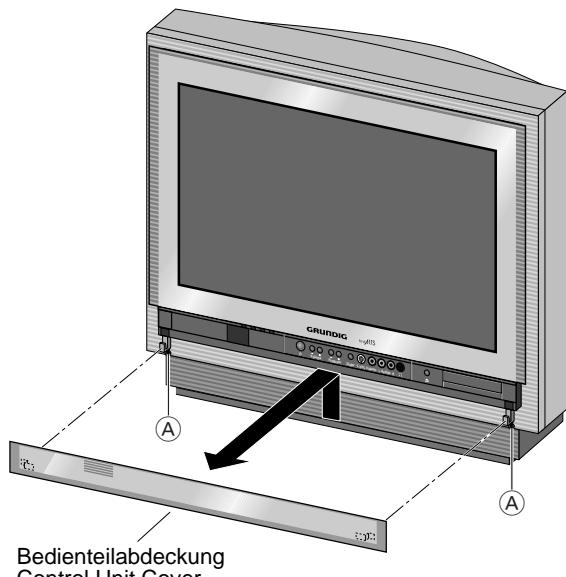

Fig. 1
- Insert the power supply plug and let slide down the control unit cover (Fig. 1).
- Undo the two fixing screws ① (Fig. 1) and lift off the control unit cover.